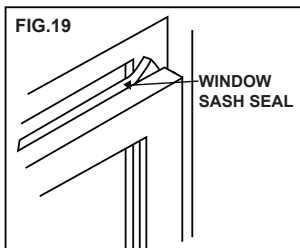

FIG. 19
1. Trim window sash seal to fit window width. Insert it into space between upper and lower sashes as shown (FIG. 19).